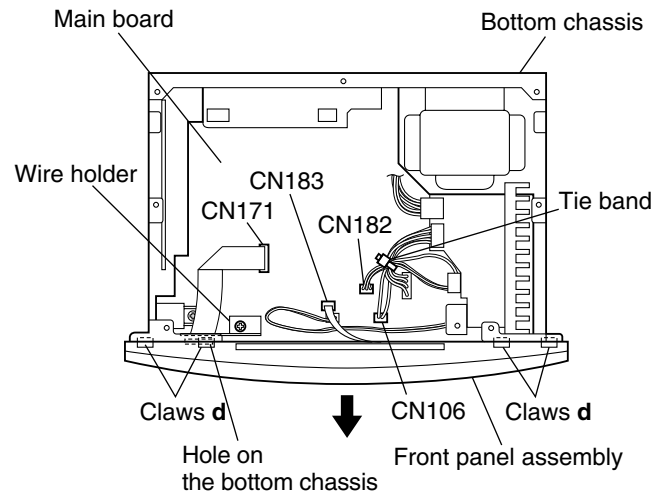

Fig.6
■ Removing the front panel assembly (See Figs. 6 and 7.)